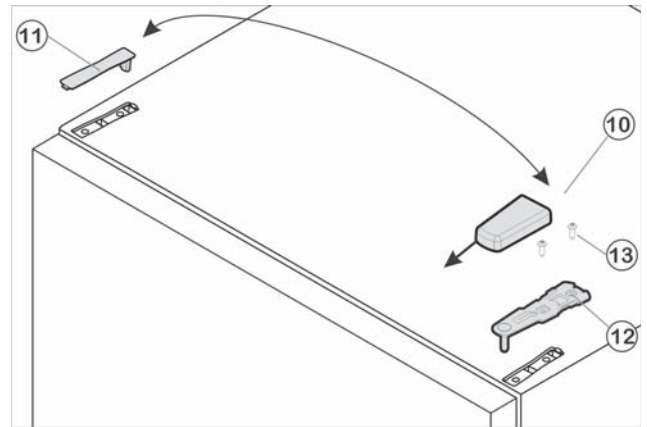

Fig. 20
▶ Pull cover *Fig. 20 (10)* forward and then upwards to remove.
▶ Lift off cover *Fig. 20 (11)*.
▶ Unscrew upper bearing bracket *Fig. 20 (12)* (2 x Torx 25) *Fig. 20 (13)* and pull it upwards to remove.
- ▶ Insert the upper bearing bracket Fig. 20 (12) on the new hinge side into the door.
- ▶ Secure the upper bearing bracket Fig. 20 (12) **tightly by applying a torque of 3 lb-ft (4 Nm)** (2 x Torx 25) Fig. 20 (13). Make preliminary holes (optional) or use a cordless screwdriver.
- ▶ Snap both cover Fig. 20 (10) and cover Fig. 20 (11) into place on the opposite side.